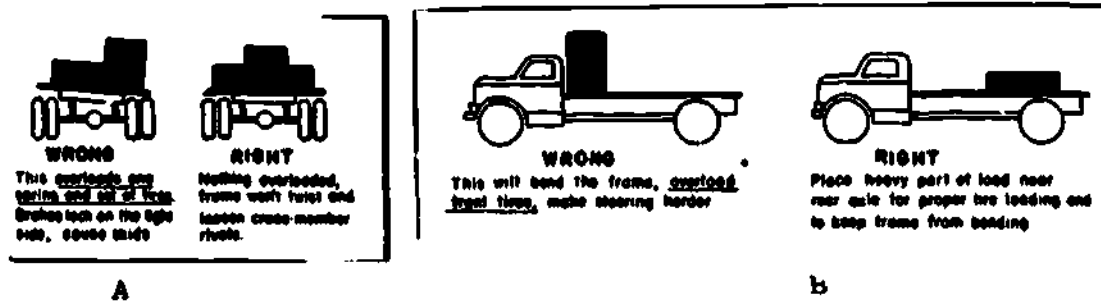

Fig 1-7. Distributing loads.
c. **Improper loading.** In describing improper loading, the first reaction is to think that a vehicle was loaded beyond its rated capacity. This is a common cause of tire failure, especially if the vehicle is then driven at a high rate of speed. We should also be aware that tire failure due to improper loading will occur even when the load does not exceed the rated capacity of the vehicle. Tire failure can occur as a result of an unevenly distributed load which would put an overload on certain tires and vehicle components (A and B, fig 1-7).